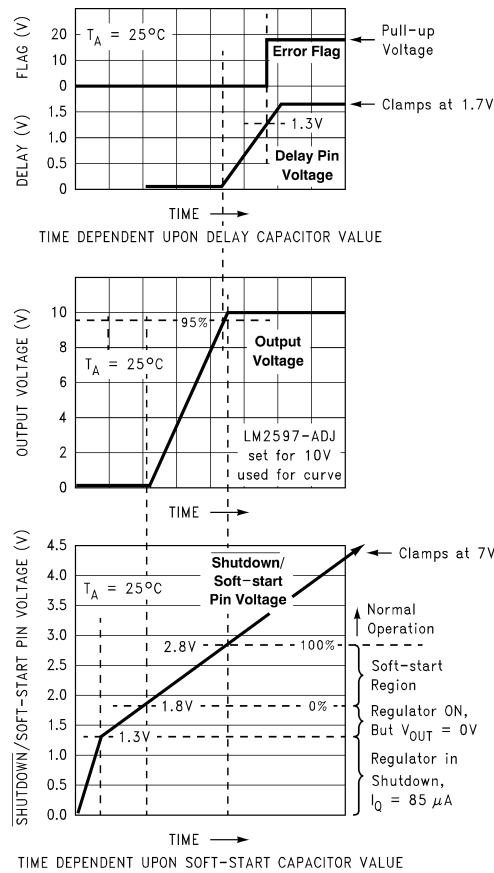
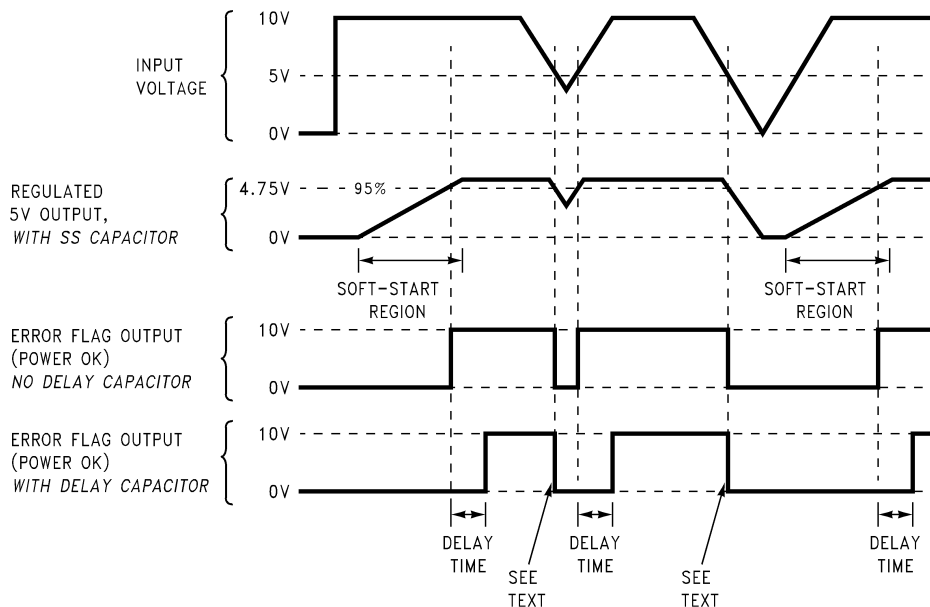

Figure 31. Soft-Start, Delay, Error, and Output
Figure 33. Timing Diagram for 5-V Output
A capacitor on this pin provides the regulator with a soft-start feature (slow start-up). When the DC input voltage is first applied to the regulator, or when the Shutdown/Soft-start pin is allowed to go high, a constant current (approximately 5 μ A begins charging this capacitor). As the capacitor voltage rises, the regulator goes through four operating regions (see the bottom curve in Figure 31).
3. Soft-start Region – When the $\overline{SD/SS}$ pin voltage is between 1.8 V and 2.8 V (at 25°C), the regulator is in a soft-start condition. The switch (Pin 8) duty cycle initially starts out very low, with narrow pulses and gradually get wider as the capacitor $\overline{SD/SS}$ pin ramps up towards 2.8 V. As the duty cycle increases, the output voltage also increases at a controlled ramp up. See the center curve in Figure 31. The input supply current requirement also starts out at a low level for the narrow pulses and ramp up in a controlled manner. This is a very useful feature in some switcher topologies that require large start-up currents (such as the inverting configuration) which can load down the input power supply.
The lower curve shown in Figure 31 shows the soft-start region from 0% to 100%. This is not the duty cycle percentage, but the output voltage percentage. Also, the soft-start voltage range has a negative temperature coefficient associated with it. See the soft-start curve in Electrical Characteristics.
Provides delay for the error flag output. See the upper curve in Figure 31, and also refer to timing diagrams in Figure 33. A capacitor on this pin provides a time delay between the time the regulated output voltage (when it is increasing in value) reaches 95% of the nominal output voltage, and the time the error flag output goes high. A 3- μA constant current from the delay pin charges the delay capacitor resulting in a voltage ramp. When this voltage reaches a threshold of approximately 1.3 V, the open collector error flag output (or power OK) goes high. This signal can be used to indicate that the regulated output has reached the correct voltage and has stabilized.